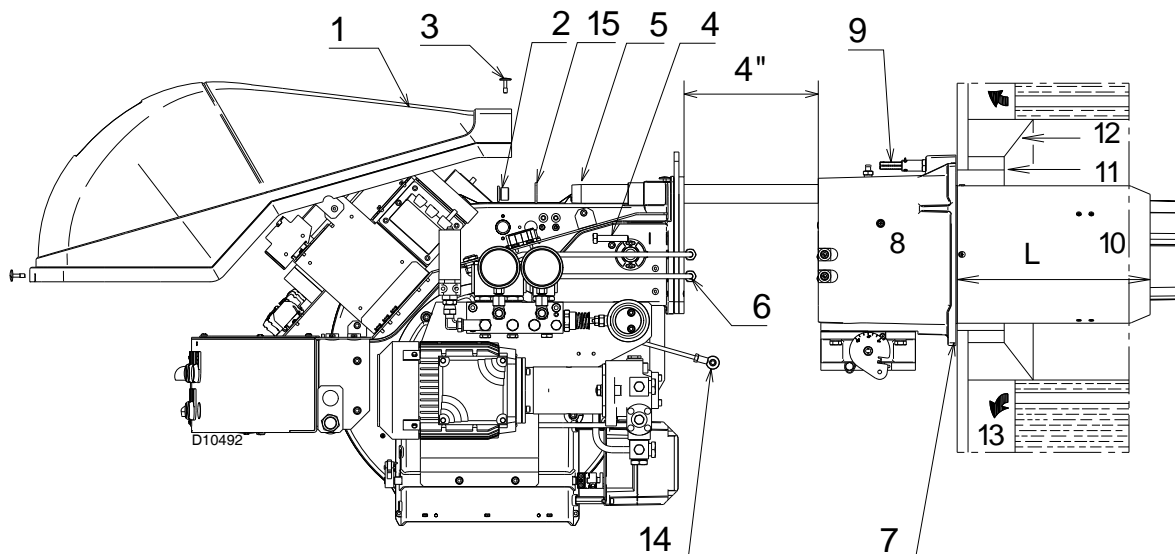
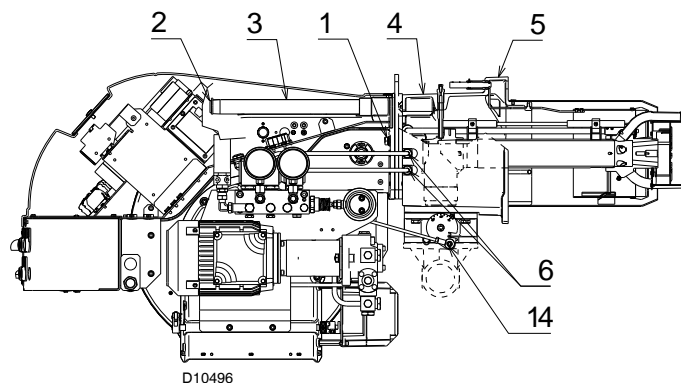

Fig. 12
Fig. 24
For boilers having a water-cooled front, the insulation 11)-12) (Fig. 12) is not required unless it is required by the boiler manufacturer.
Detach the combustion head from the burner, (Fig. 12):
- Refit the burner to the slide bars 3) (Fig. 24) at approximately 4" from the sleeve 4) - burner positioned as shown in (Fig. 12, page 17) - insert the ignition electrode cables.
- Slide the burner up to the sleeve so that it is positioned as shown in (Fig. 24);
- refit screws 2) (Fig. 24) on slide bars 3) including the safety plate 15) Fig. 12, page 17;
- connect the oil pipes again by screwing on the two connectors 6) (Fig. 12, page 17).